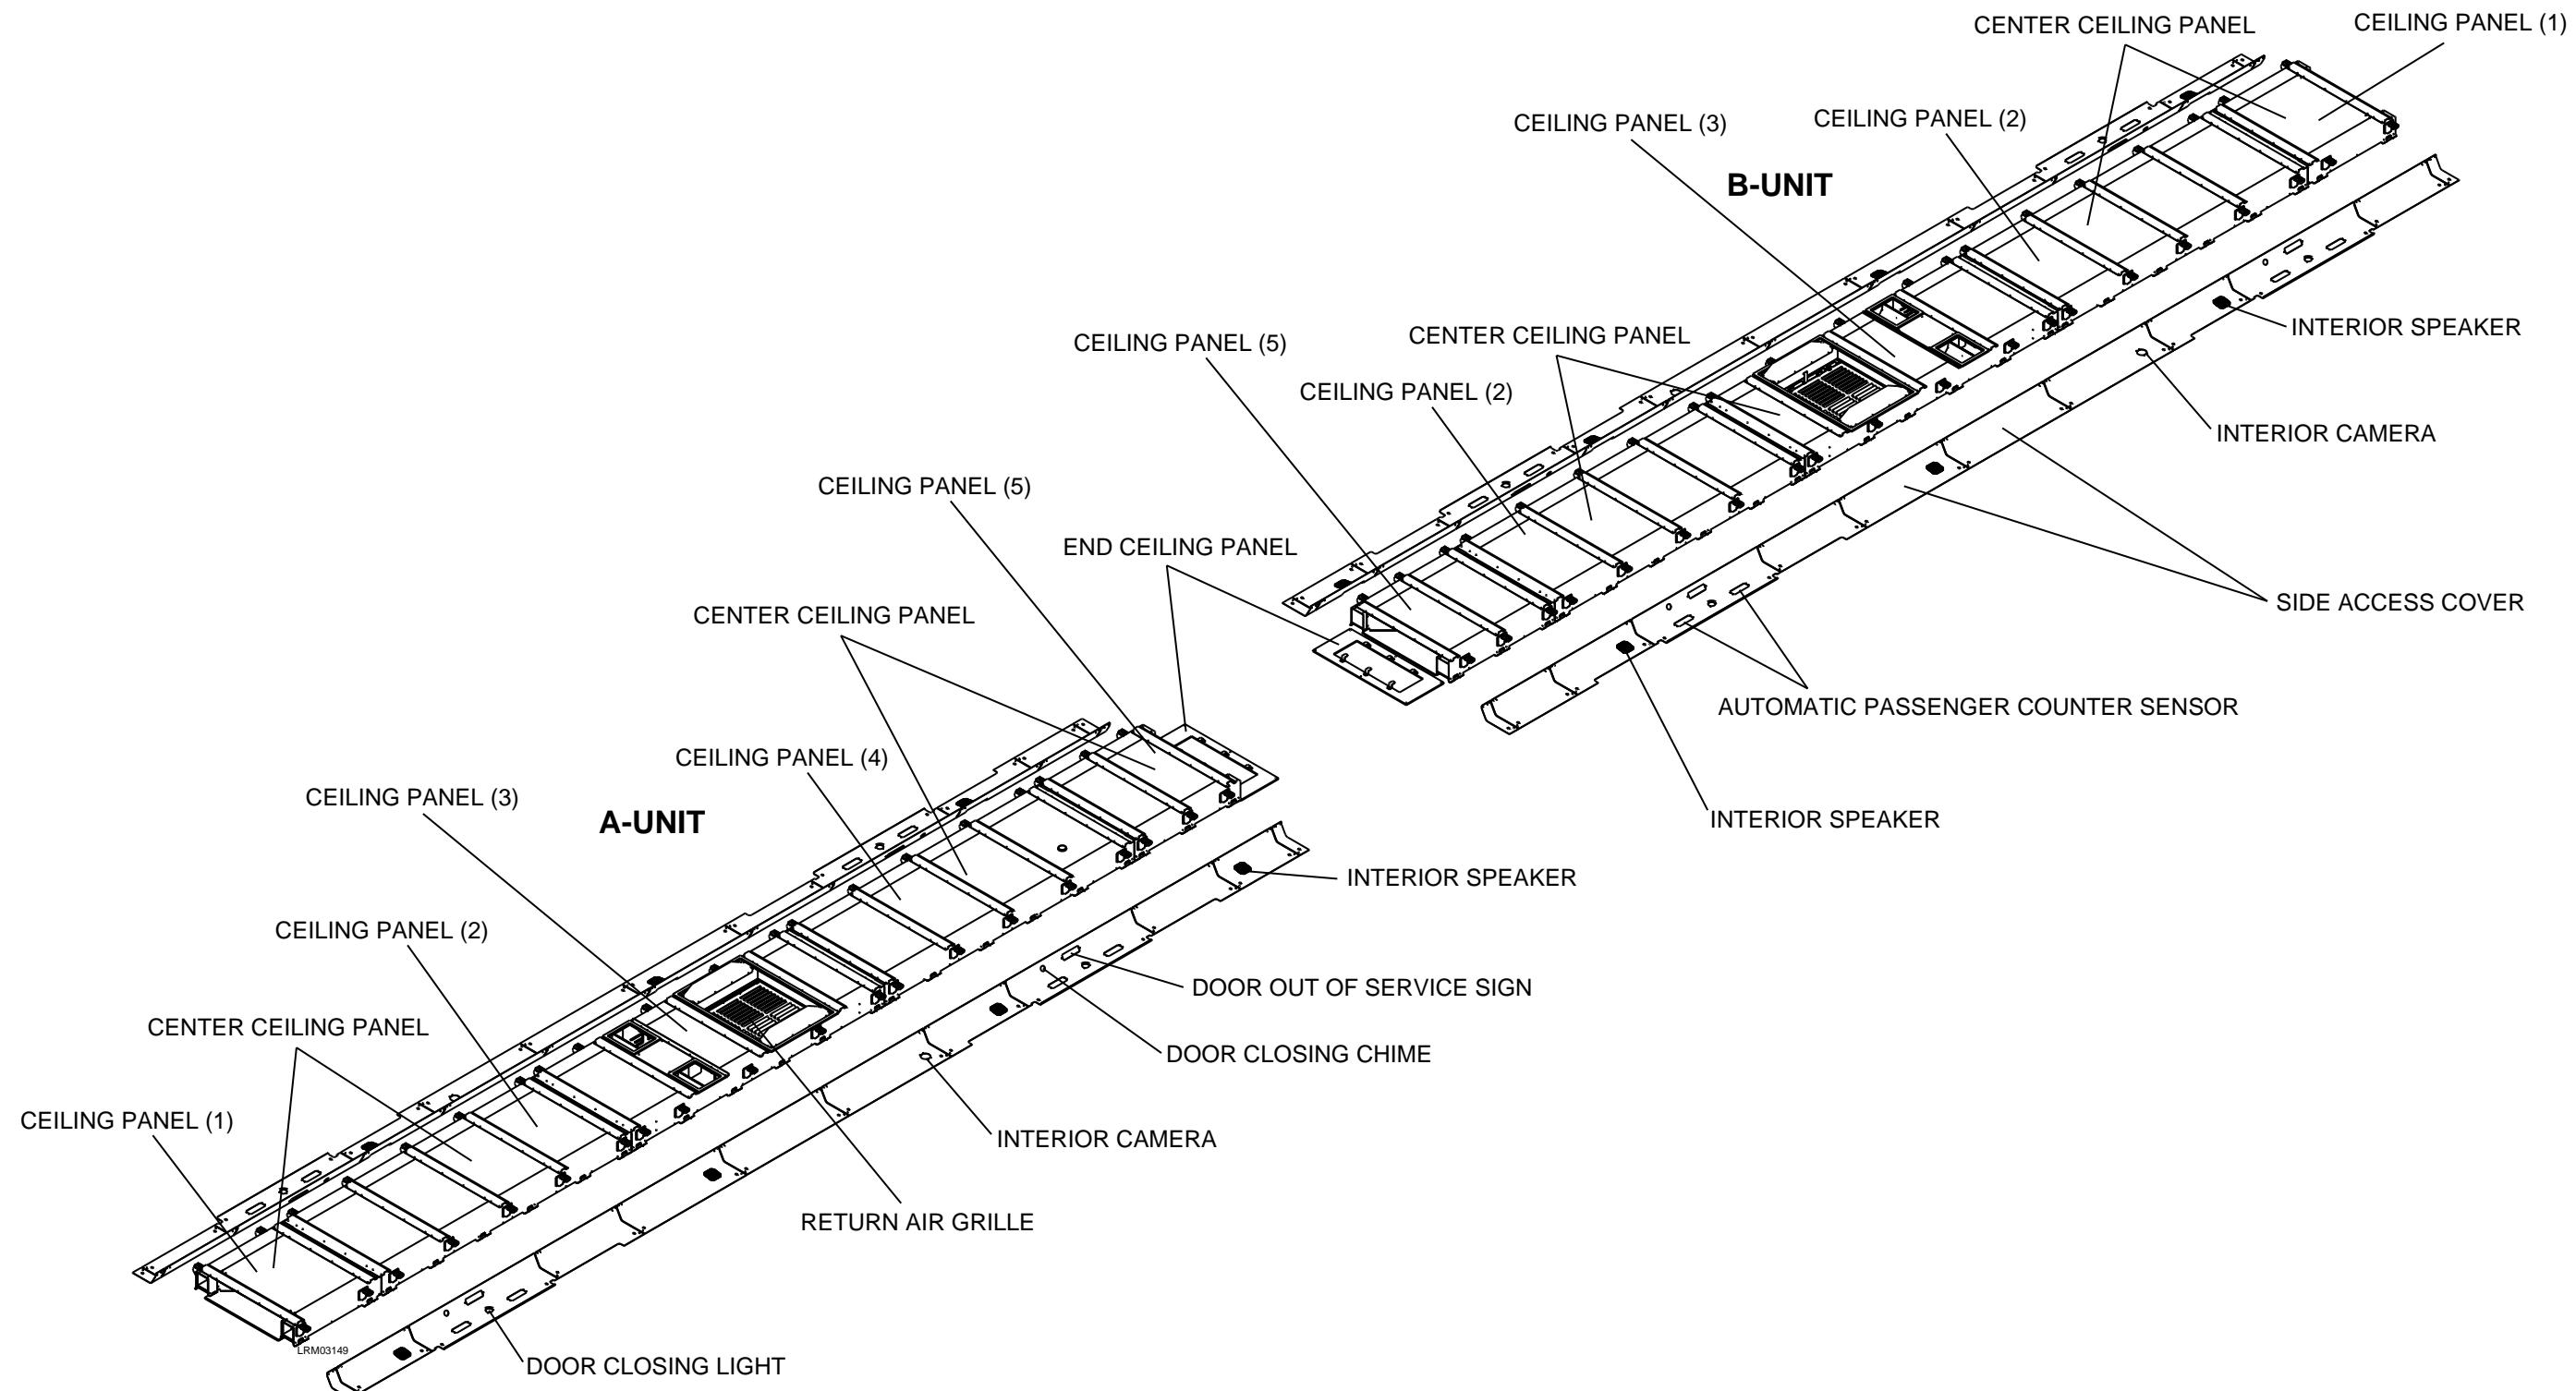

Figure 2-7: Ceiling Panels
There are center ceiling panels, end ceiling panels and side access covers throughout the A and B-Units. See Figures 2-7 and 7-82. The ceiling panels make up the car ceiling. The side access covers allow access to the door equipment and also serve as mounting for the interior cameras, interior speakers, automatic passenger counters, door closing light, door closing chime and door out of service signs. The same numbered ceiling panels are interchangeable. Ceiling panel (4) is unique as it has the shaft opening for the pantograph hand crank on the A-Unit Only. The end ceiling panels near the articulation area are also unique and not interchangeable. Refer to KI drawing UA09259, Rev. G.
There are two return air grilles per car. See Figures 2-7 and 7-84. They are located one each in the A and B-Units. Air is drawn through the return air grille by the HVAC units from the passenger compartments of the car for re-circulation. The return air grille can be opened by the two latches keyed for maintenance access. There are two additional safety features beyond the latches, a metal catch and two chains. When the catch is disengaged, the grille will hang by the two safety chains. These need to be disengaged for the grille to hang free by its hinge to allow full access to the HVAC unit.
See Figures 2-7 and 7-83.
There are eight door out of service signs per car. They are located above each door opening. When lit, the door located directly below the lit sign is out of service. See Figures 2-7 and 7-83.
There are eight door closing chimes per car. They are located above each door opening. The warning chime is used to indicate that the doors are closing after the chime sounds. See Figures 2-7 and 7-83.
There are eight door closing lights per car. They are located above each door opening. The door closing light blinks when the doors are about to close. See Figures 2-7 and 7-83.
There are sixteen automatic passenger counter sensors per car. See Figures 2-7 and 7-83. Two are located at each of the eight door openings. The automatic passenger counter sensors keep track of the number of passengers entering or leaving any doorway and also tracks what stations are being used the most. Refer to Sections 2.2.3.16 and 7.4.3.8 in this manual section for additional information.
There are four interior view cameras per car. See Figures 2-7 and 7-83. Two are located each in the A and B-Unit mounted on the side access covers. The interior view cameras provide security for the passengers.
There are fourteen interior speakers per car. Seven are located each in the A and B-Unit mounted on the side access covers. See Figures 2-7 and 7-83. The interior speakers provide the passengers a means by which to hear Operator announcements.